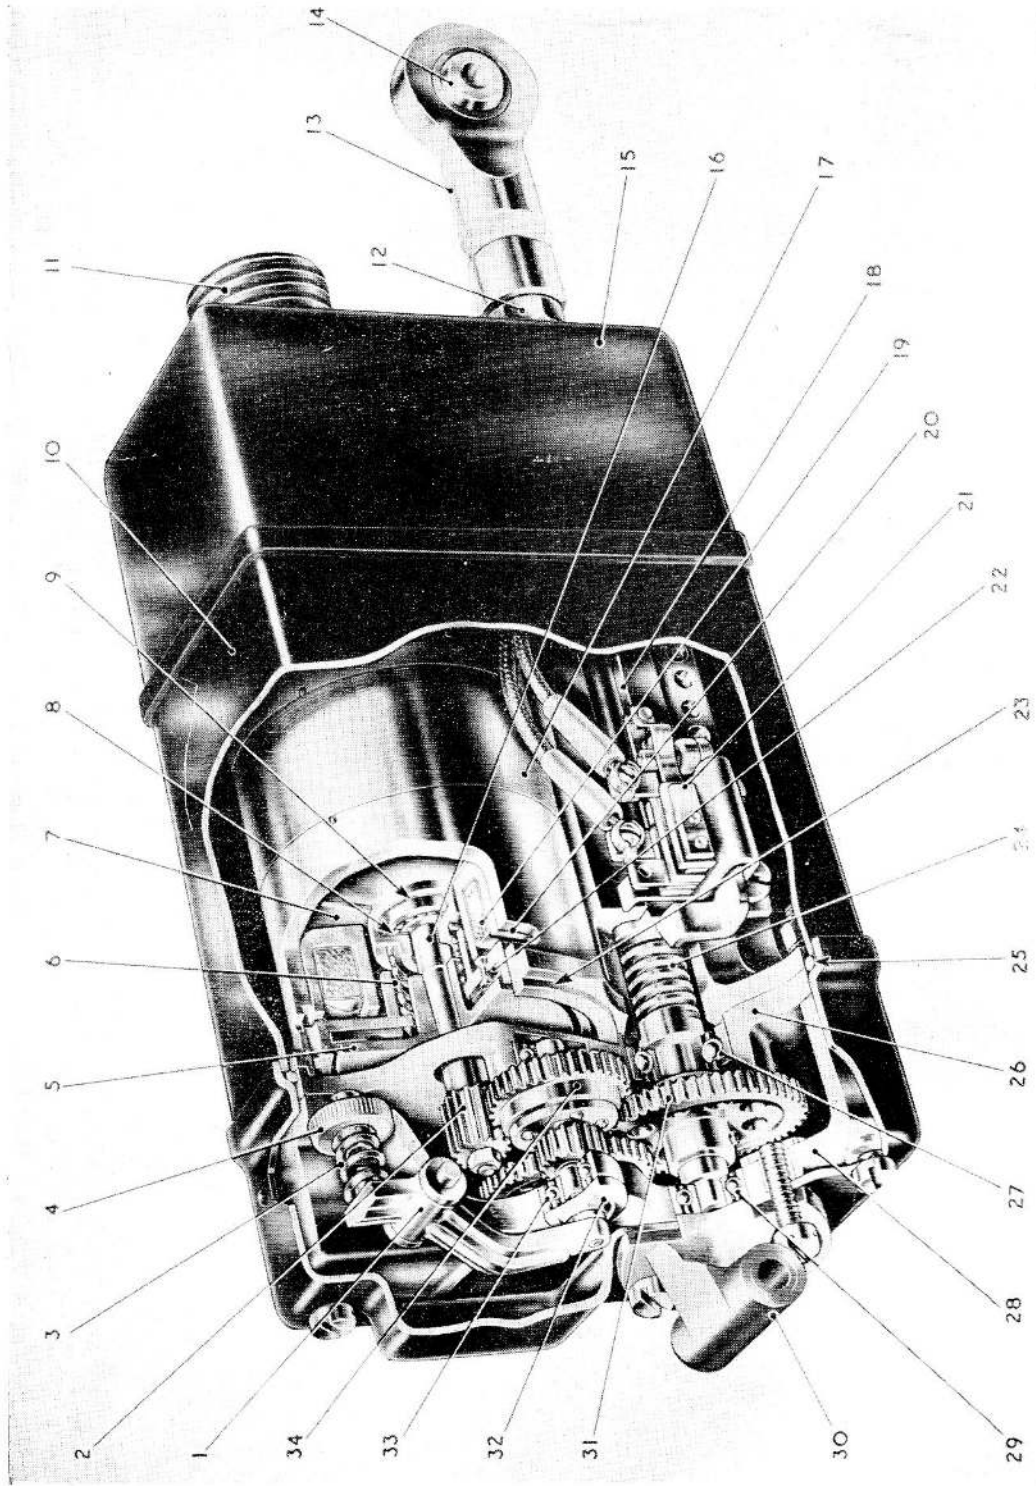

Fig. 6. Sectional view of actuator, Type CZ53681/F
3. A sectional view of the actuator appears in fig. 6. The general construction is as described in the Appendix on Jaguar actuators, to which reference should be made for further information.
**KEY TO FIG. 6**